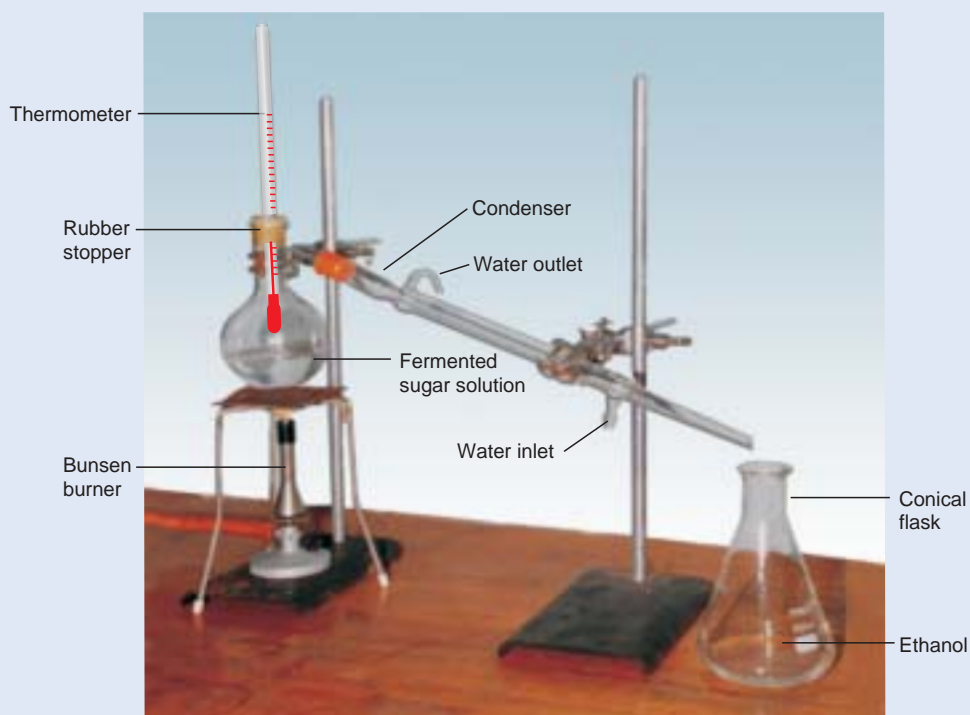

Figure 1.14 Separation of ethanol by distillation.
2. After three days, filter the solution, and arrange the set up as in **Figure 1.14**. Pour 20 mL of the filtrate in a distilling flask, heat the solution, and collect the liquid in a receiver.